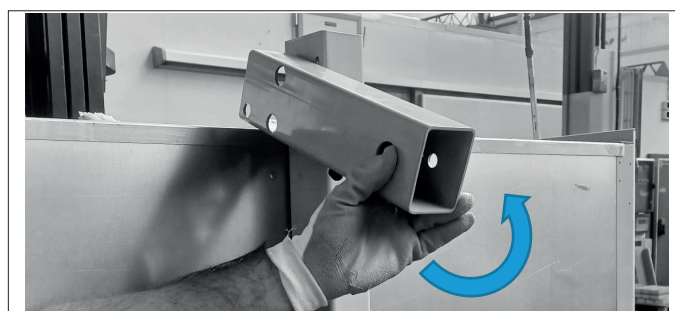
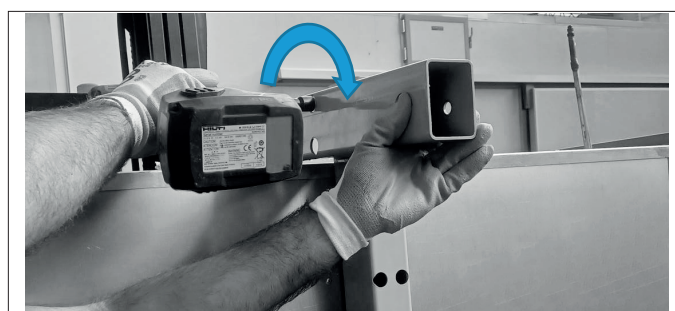

Fig. 36
Fig. 37
- Rotate the newly removed spar, positioning it as shown in the figure ("Fig. 36") and fix it again to the upright ("Fig. 37").